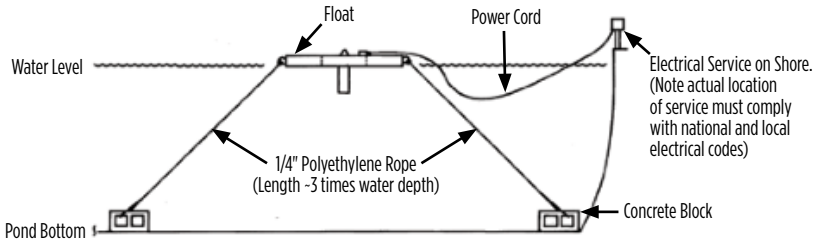
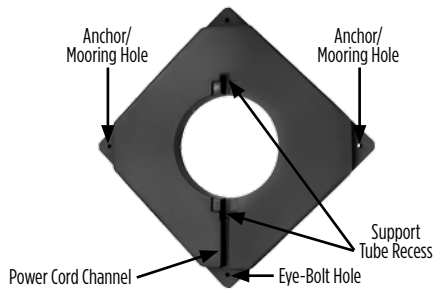

Figure 1
Figure 3
- i. Cut two lengths of 1/4" polyethylene rope. If anchoring to the pond bottom, allow for approximately 3 ft of rope for every foot of water depth (Figure 1). If mooring to the shore, allow for enough rope to reach from the intended float location on the pond surface to a secure mooring location on the shore.
- ii. A minimum of two anchoring/mooring ropes should be used, tied to two opposing corners of the float (Figure 3). Insert one rope end into one of the anchoring/mooring holes of the float and tie securely. Do the same on the diagonally opposite corner. Only two opposing corners are needed to secure most applications (Figure 1). However, if your application encounters strong windy conditions, anchoring/mooring three or more float corners can reduce drifting of the unit during these conditions.
- i. If anchoring the float to the pond bottom, lower one anchor block to the pond bottom, position the float where desired and lower the other anchor block to the pond bottom, each oriented so that the ropes are at an angle to the float (Figure 1).